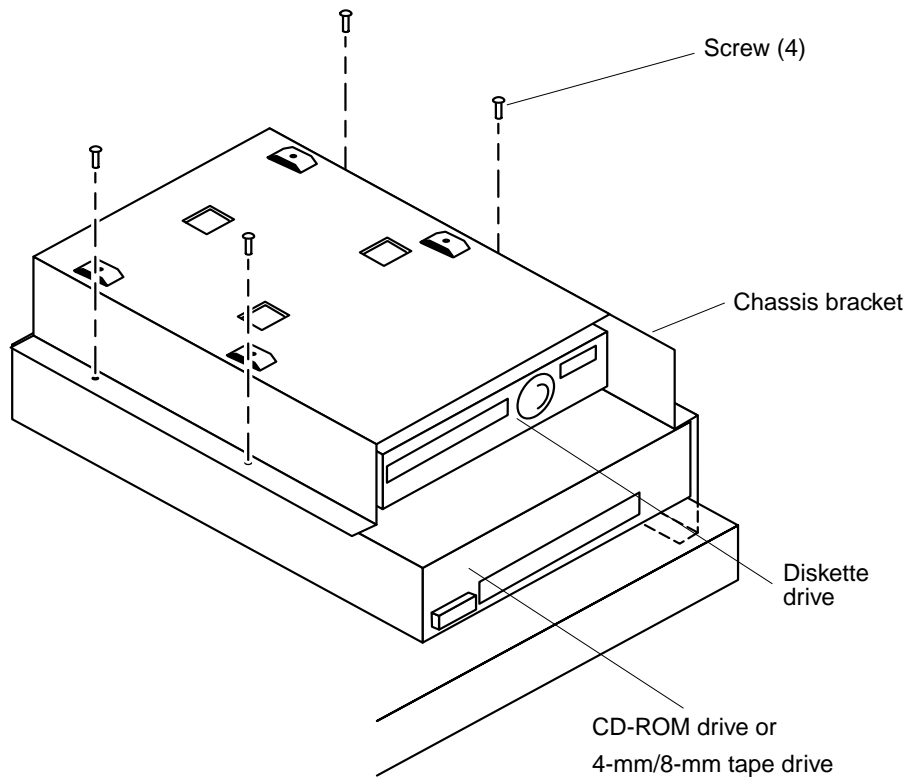

FIGURE 9-9 Positioning the CD-ROM Drive or 4-mm/8-mm Tape Drive
5. Remove the CD-ROM drive as follows (FIGURE 9-9):
1. Position and align the CD-ROM drive or 4-mm/8-mm tape drive on the surface edge of an antistatic surface (FIGURE 9-9).